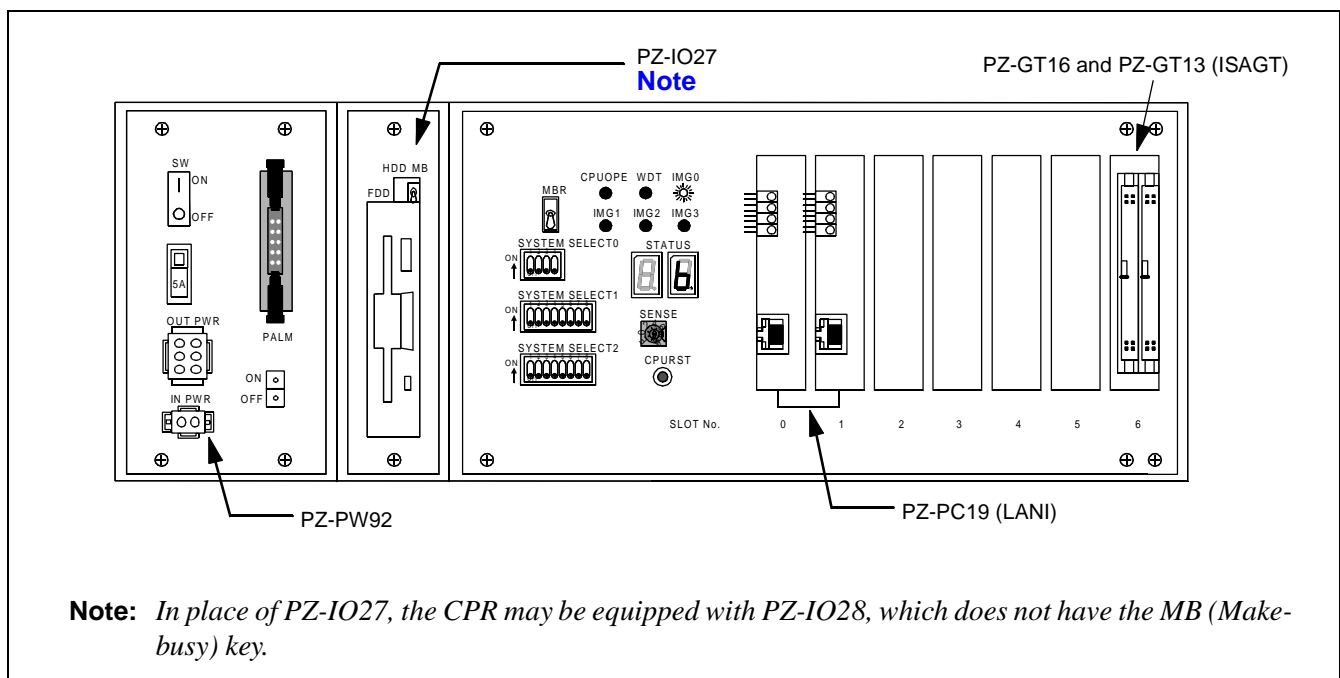

Figure 4-24 CPR Face Layout
STEP 1 Set the CPU, whose rack houses the fan to be replaced, in STBY mode via the MBR key on the DSP (Refer to Figure 4-24.) **Note**
STEP 3 Turn OFF the PWR SW on the PZ-PW92 (Refer to Figure 4-24 Face Layout of CPR.)